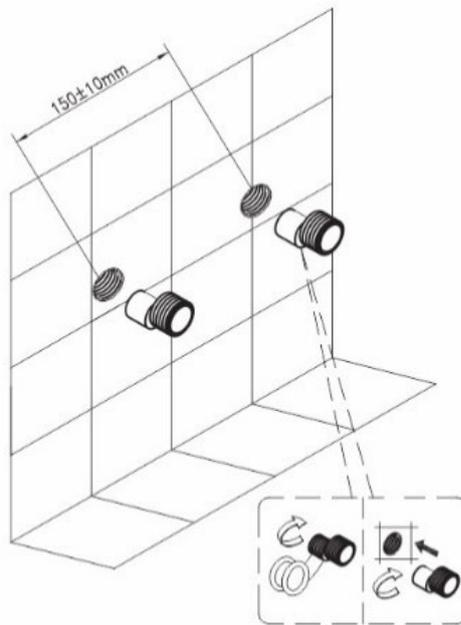

**Figure 5**
**CAUTION:** The flexible hoses must be slightly slack. It should not be stretched, kinked or twisted (Figure 5).